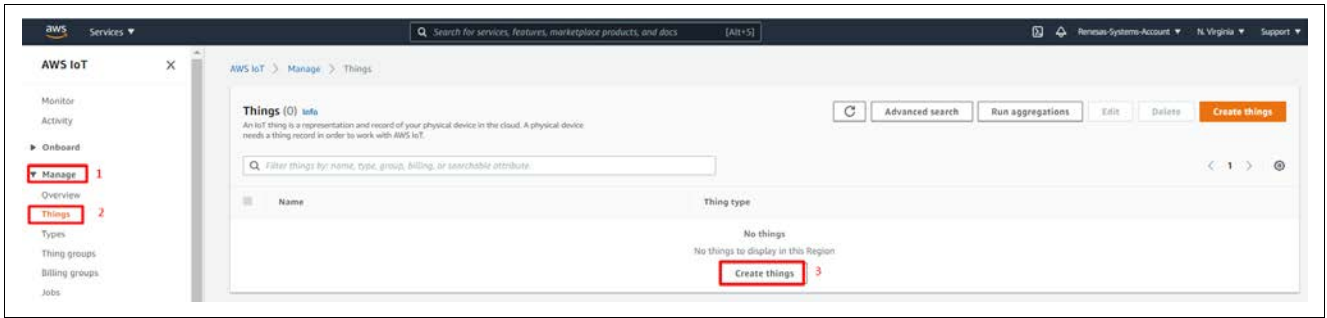

Figure 14. Create a Thing
1. Start creating a Thing by selecting **Manage** as shown in Figure 14.